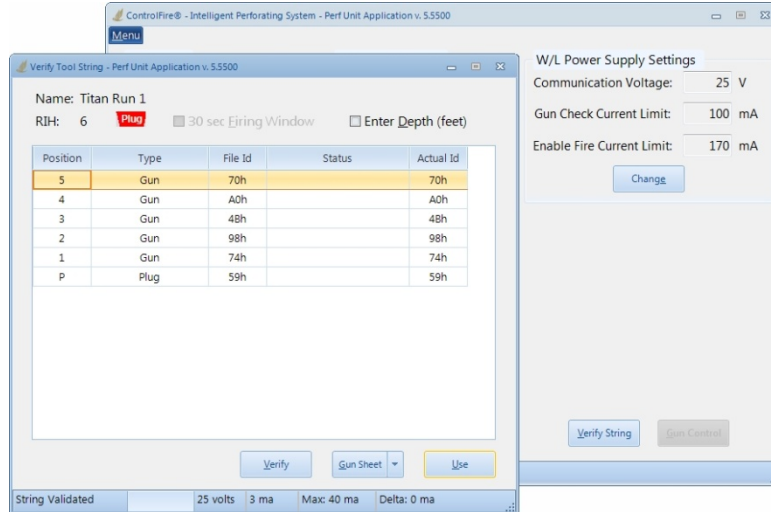

Figure 25
1. Select the **Verify String** button on the Set Up Screen. The Verify Tool String screen appears and the tool string is validated against the Titan Run 1.gsi file. Following a successful scan the status bar displays “String Validated” as seen in Figure 25